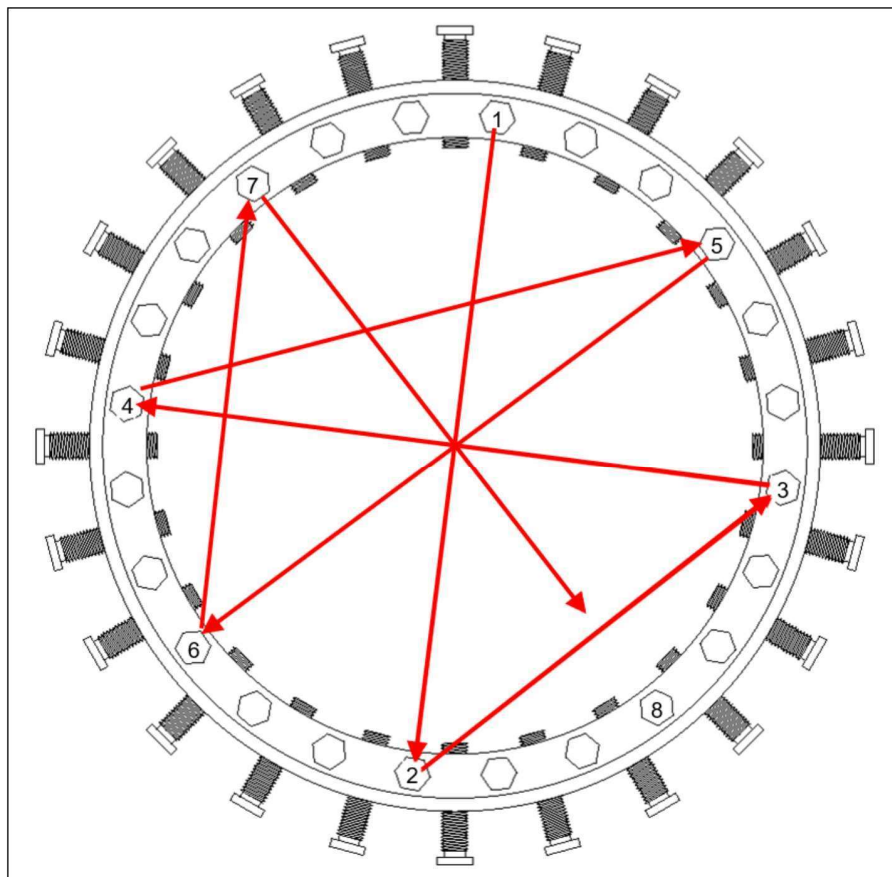
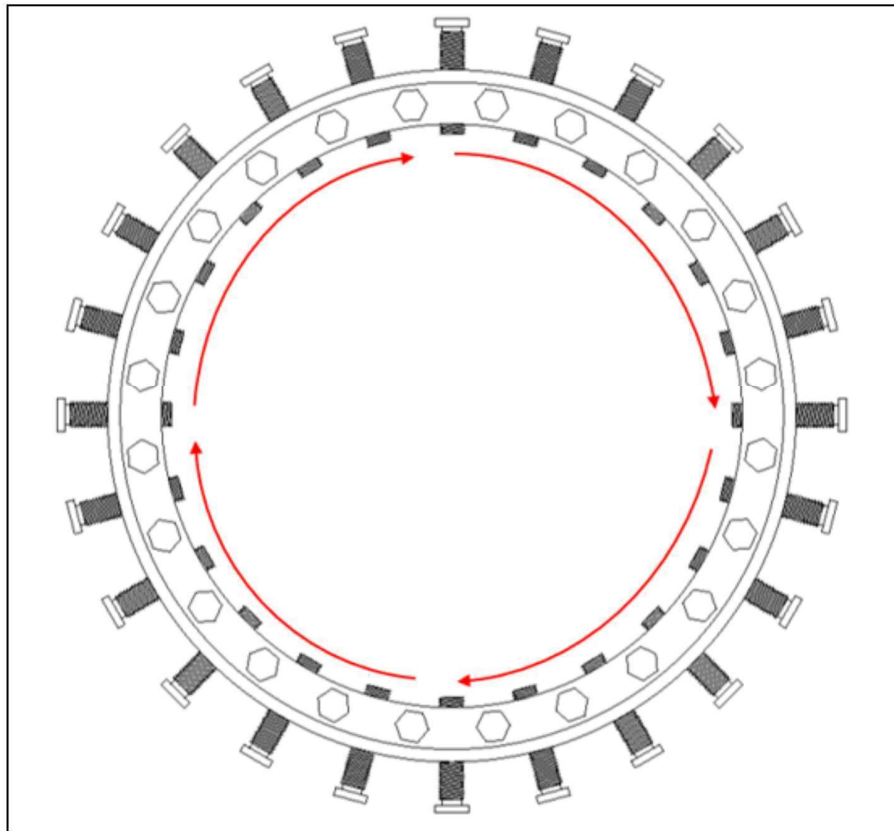

Figure 7
Figure 8
9. Torque the thrust screws one at a time in a repeated crisscrossed star sequence that matches Figure 7. The first time through the sequence, tighten the screws to 25% of the minimum torque. The second time through, tighten the screws to 50% torque. The third time through, tighten the screws to 100% torque. Then, follow a circular tightening sequence that matches Figure 8, at 100% torque, until the thrust screws are unable to continue spinning.